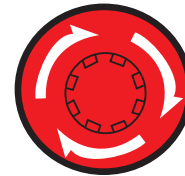

Figure 64. Emergency Stop Switch
1. To stop the engine in the event of an emergency, press the **Emergency Stop** switch (Figure 64).